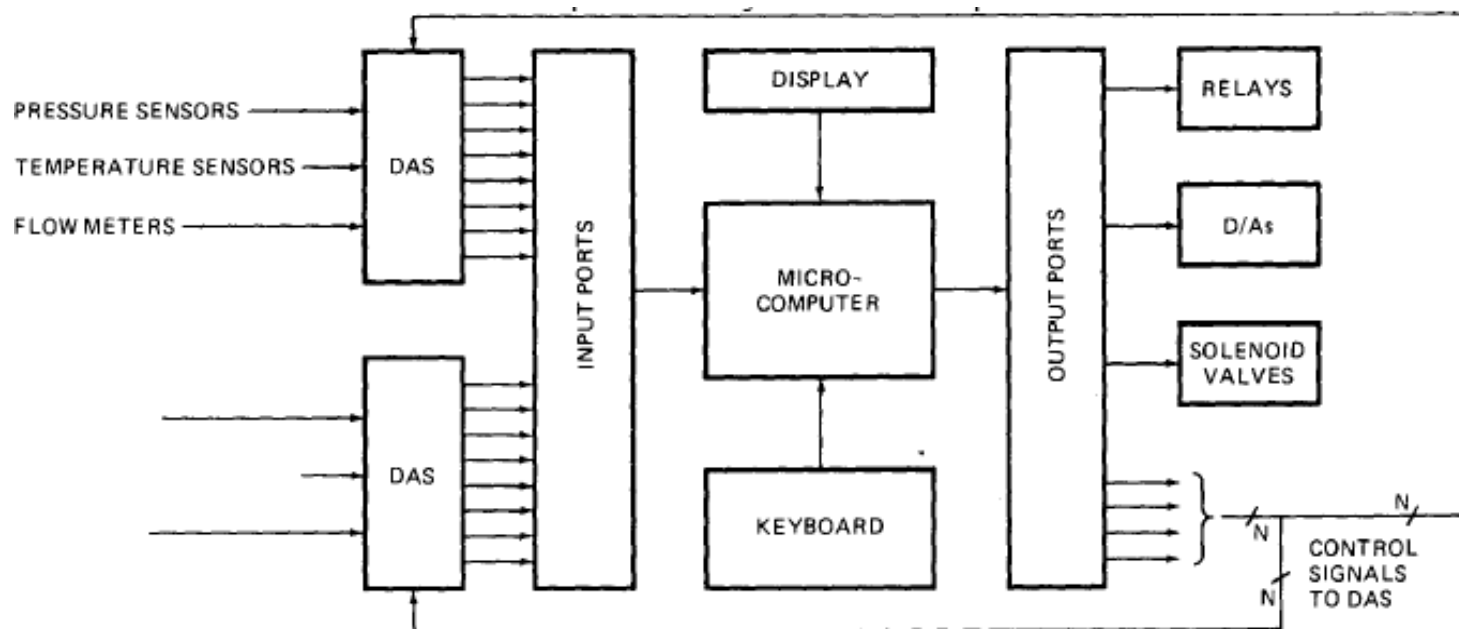

Fig 5.8 Block diagram of microcomputer-based process control system.
- Figure 5.8 shows a block diagram of